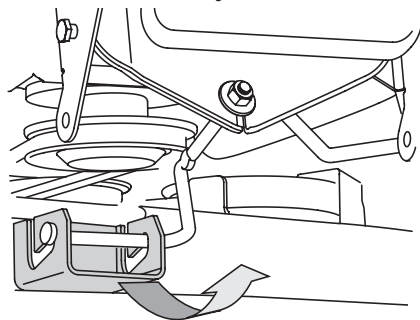

Figure 32
8. On 38" decks, gently slide the cutting deck toward the front of the tractor carefully guiding the hooks on the deck off of the deck stabilizer rod. See Figure 32.